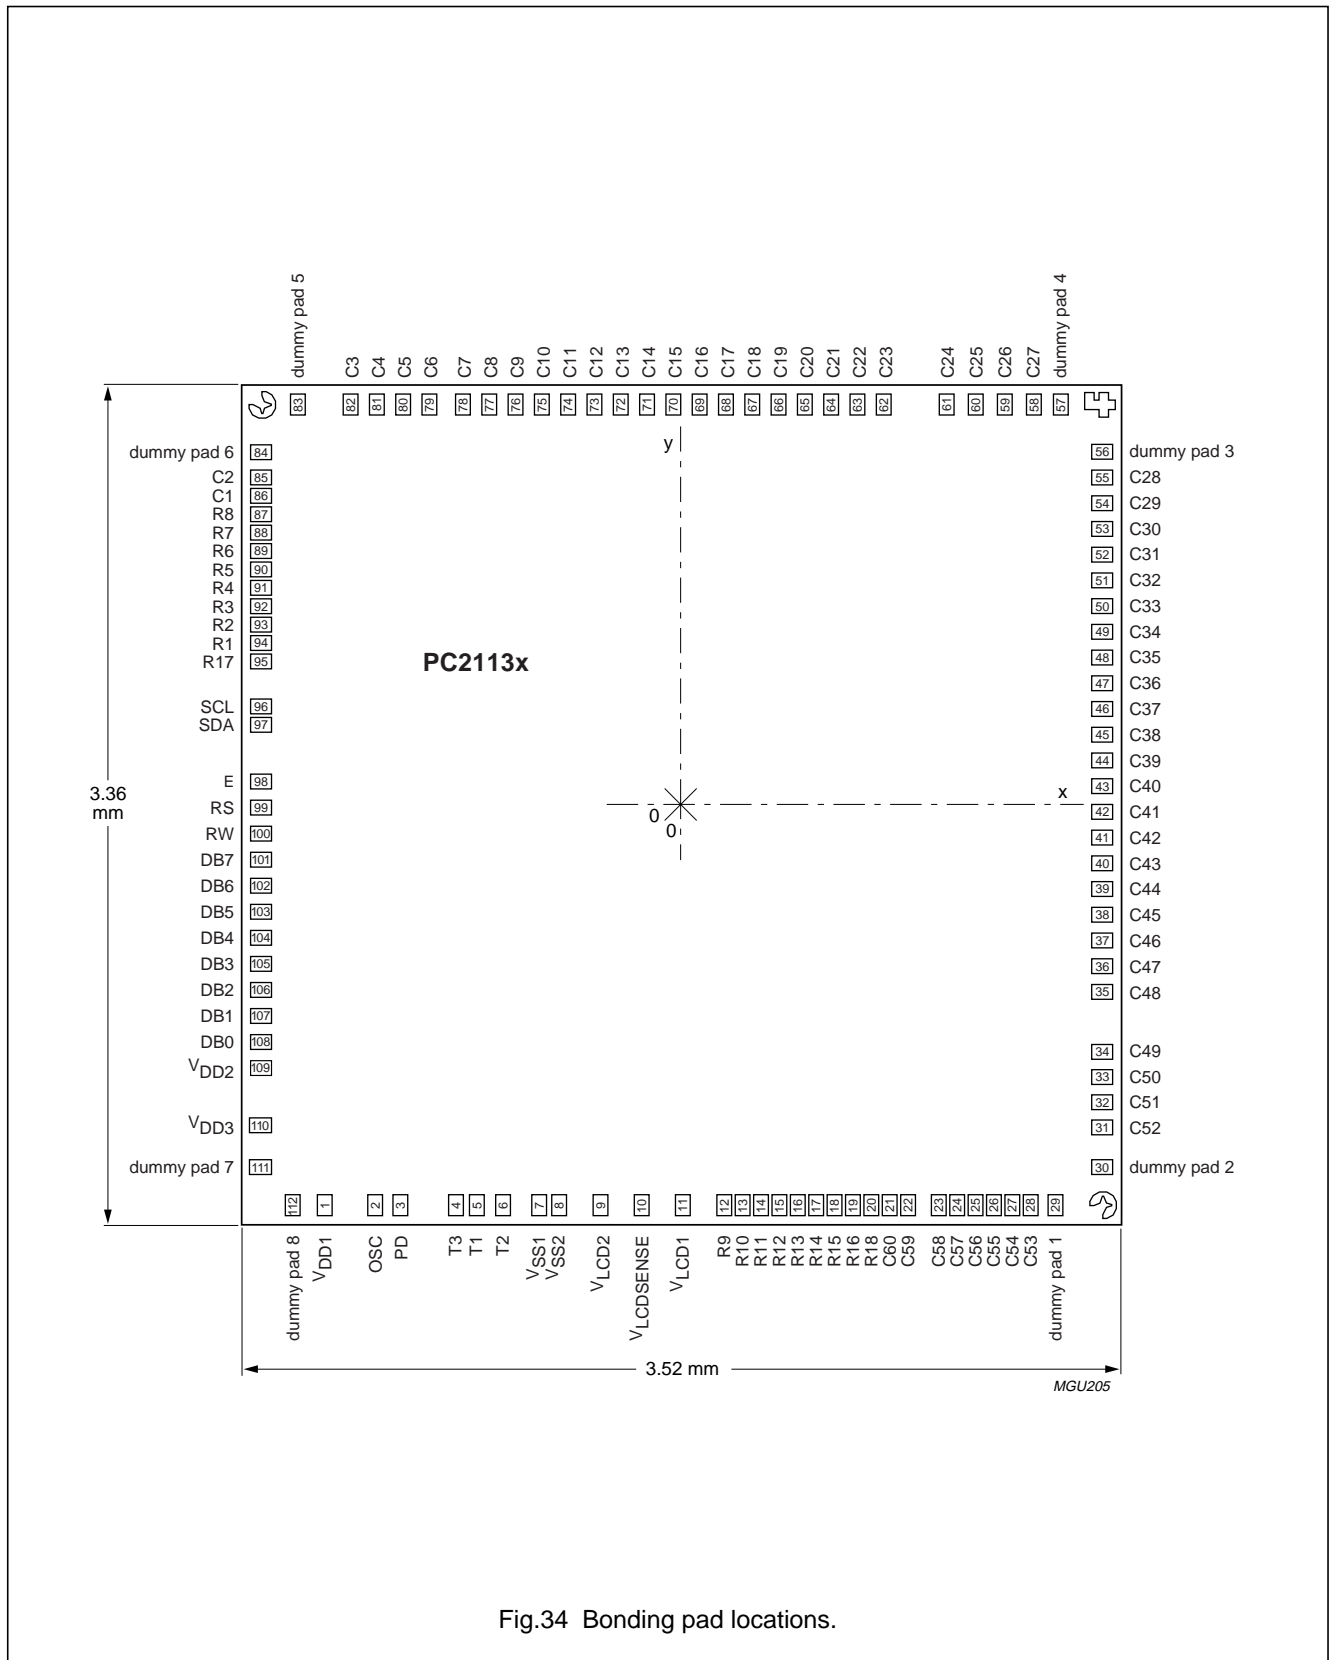

Fig.34 Bonding pad locations.
1. All x and y coordinates are referenced to centre of chip and dimensions are in  $\mu\text{m}$  (see Fig.34).